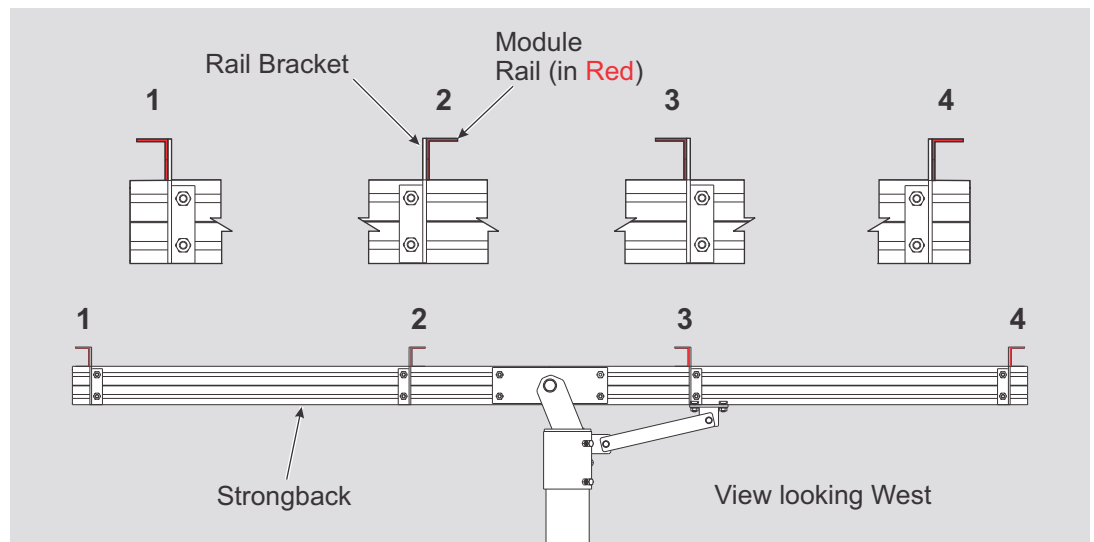
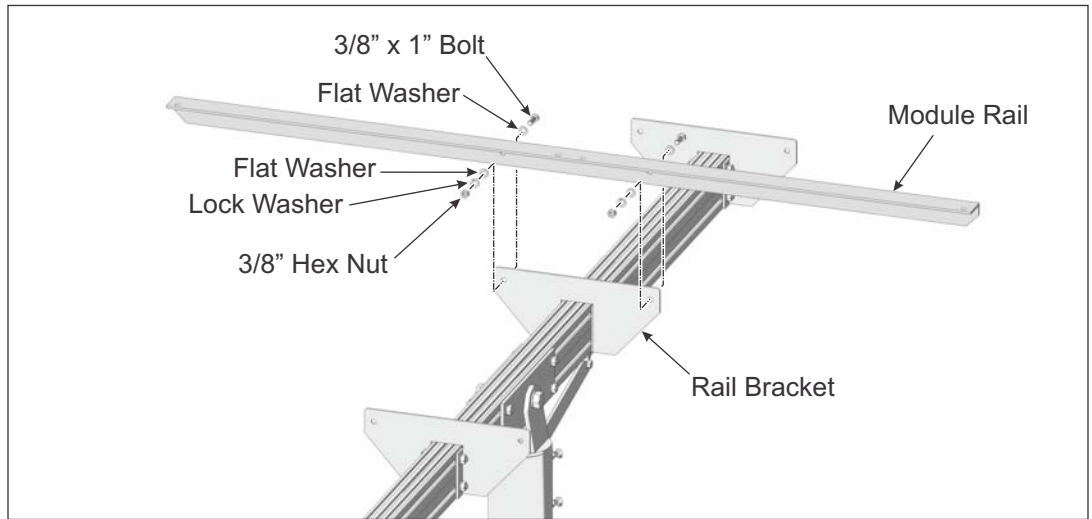

Figure 5-1: Orientation of Module Rails to Rail Brackets
Figure 5-2: Installing Module Rails to Rail Brackets
Module Rail orientation is dependent on location. Follow these instructions carefully for the correct orientation. (See Figure 5-1)
- A. Referring to Figure 5-1 for orientation of the Module Rails, position the first section of Module Rail on the Rail Bracket. Align the Module Rail mounting holes with the holes of the Rail Bracket and secure with 3/8" x 1" bolts and hardware. Finger-tighten for now. (See Figure 5-2)
- B. Continue in this manner and install all remaining Module Rails (three more) while following Figure 5-1 for proper orientation of the Rails to the Rail Brackets.